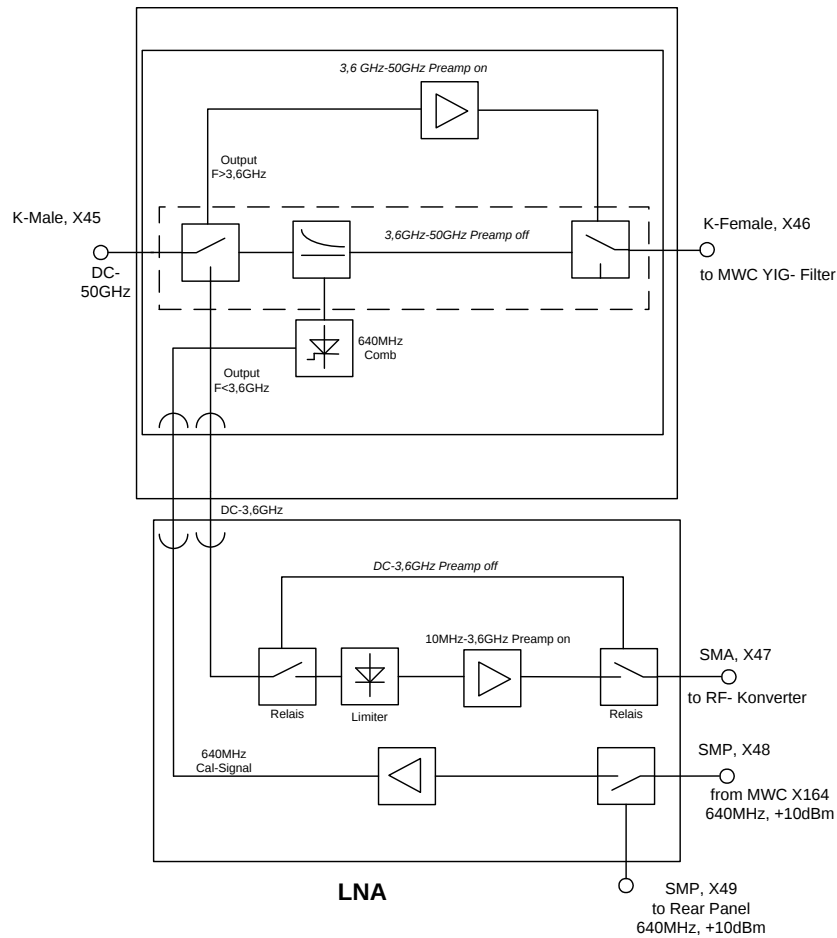

Figure 3-9: Block diagram of the preamplifier option ESU-B24 (Mod. 26GHz/40GHz)
- ▶ Undo the 9 screws with washers (590) of the front module controller board and take out the front module controller as follows (see also Fig. 3-9):